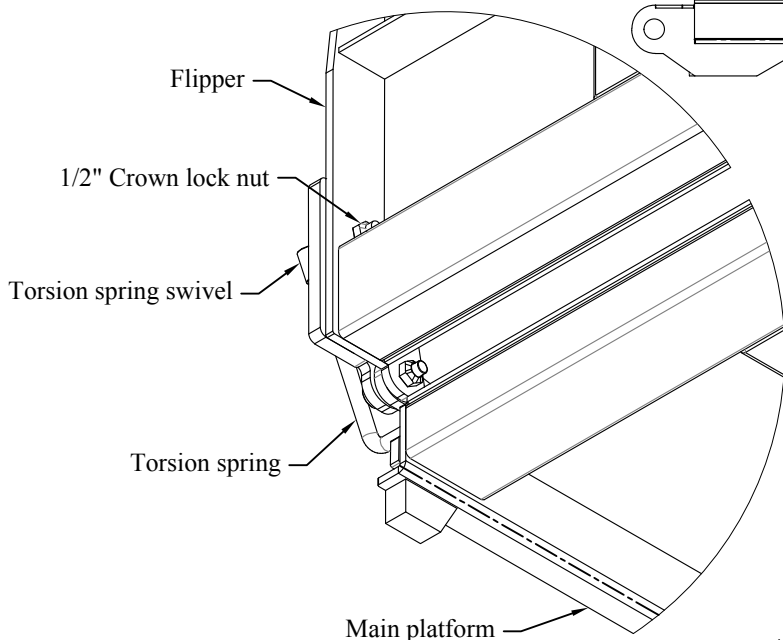

Figure 5: Torsion spring hardware.
3. **REMOVE** the 1/2" crown lock nut from the torsion spring swivel on the driver side (Figure 5).
1. **ASSEMBLE** the flipper and main platform by lining up the flipper pivot plates (Figure 5).
2. **INSTALL** the 5/8" shoulder bolts and 1/2" crown lock nuts on each side (Figure 5).